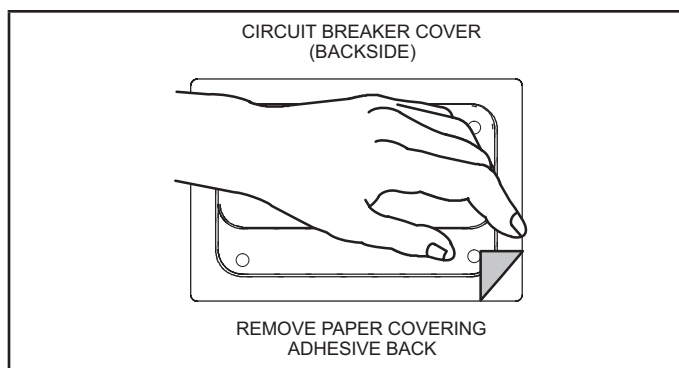

FIGURE 11. Remove Paper Cover
- 2 - Remove paper backing from the adhesive around the perimeter of the back side of the circuit breaker cover (figure 11).